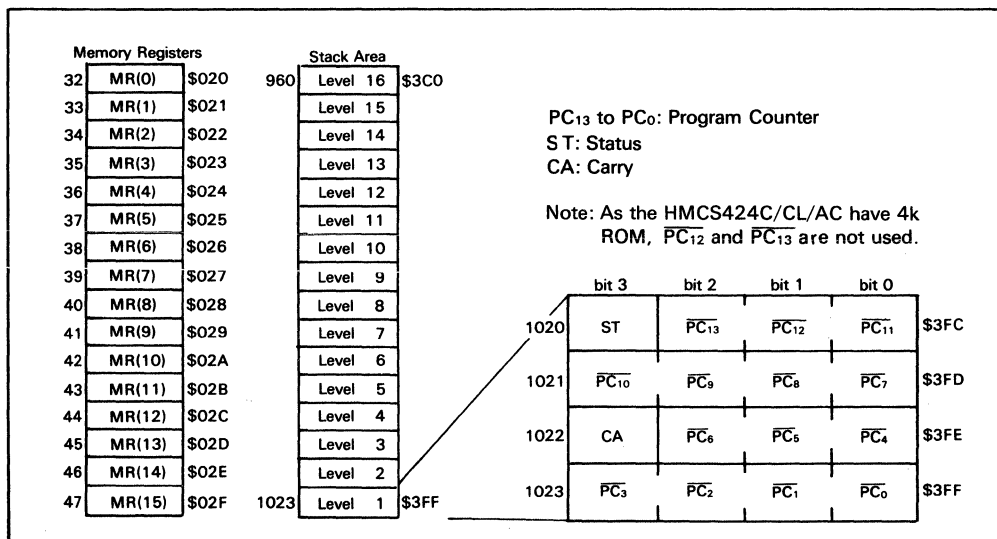

Figure 4. Configuration of Memory Register, Stack Area, and Stack Position
(MR) and are accessible by LAMR and XMRA instructions (figure 4).
Stack Area (\$3C0 to \$3FF): Locations \$3C0 through \$3FF are reserved for LIFO stacks to save the contents of the program counter (PC), status (ST) and carry (CA) when subroutine call (CAL-instruction, CALL-instruction) and interrupts are serviced. This area can be used as a 16 nesting level stack in which one level requires 4 digits. Figure 4 shows the save condition. The program counter is restored by RTN and RTNI instructions. Status and carry are restored only by RTNI instruction. This area, when not used for a stack, is available as a data area.